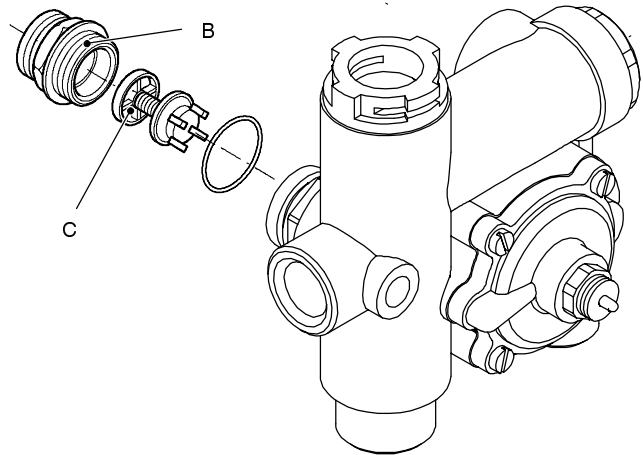

Fig. 67
- 4 Unscrew the connector *B* and remove the by-pass valve *C* (Fig. 67).
- 5 Reassemble the by-pass valve as illustrated in Fig. 67 reversing the order of removal.